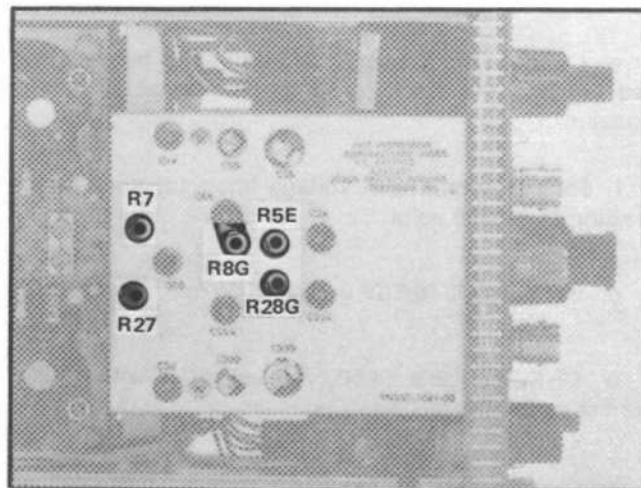

Fig. 5-7. Attenuator board adjustment locations used in the DC Input Resistance and Attenuator Ratio Adjustments procedure.
k. ADJUST—If trace shift exceeds ± 0.3 division, leave the + INPUT Mode switch in the DC position and adjust R8G (see Fig. 5-7) so that the trace is within the given tolerance. Recheck for no trace shift as the + INPUT switch is set from V_c to DC. If necessary, readjust R8G.
i. ADJUST—If a +4.500 volt reading is not obtained, adjust R7 (see Fig. 5-7) for a +4.500 volt indication on the Precision DC Voltmeter.
g. ADJUST—If the tolerance is exceeded, leave the + INPUT Mode switch in the DC position and adjust R5E (see Fig. 5-7) for minimum trace shift.
g. ADJUST—If trace shift exceeds ± 0.3 division, leave the - INPUT Mode switch at DC and adjust R28G (see Fig. 5-7) for minimum trace shift.
j. ADJUST—If a +4.500 volt reading is not obtained, adjust R27 (see Fig. 5-7) for a +4.500 volt indication on the Precision DC Voltmeter.